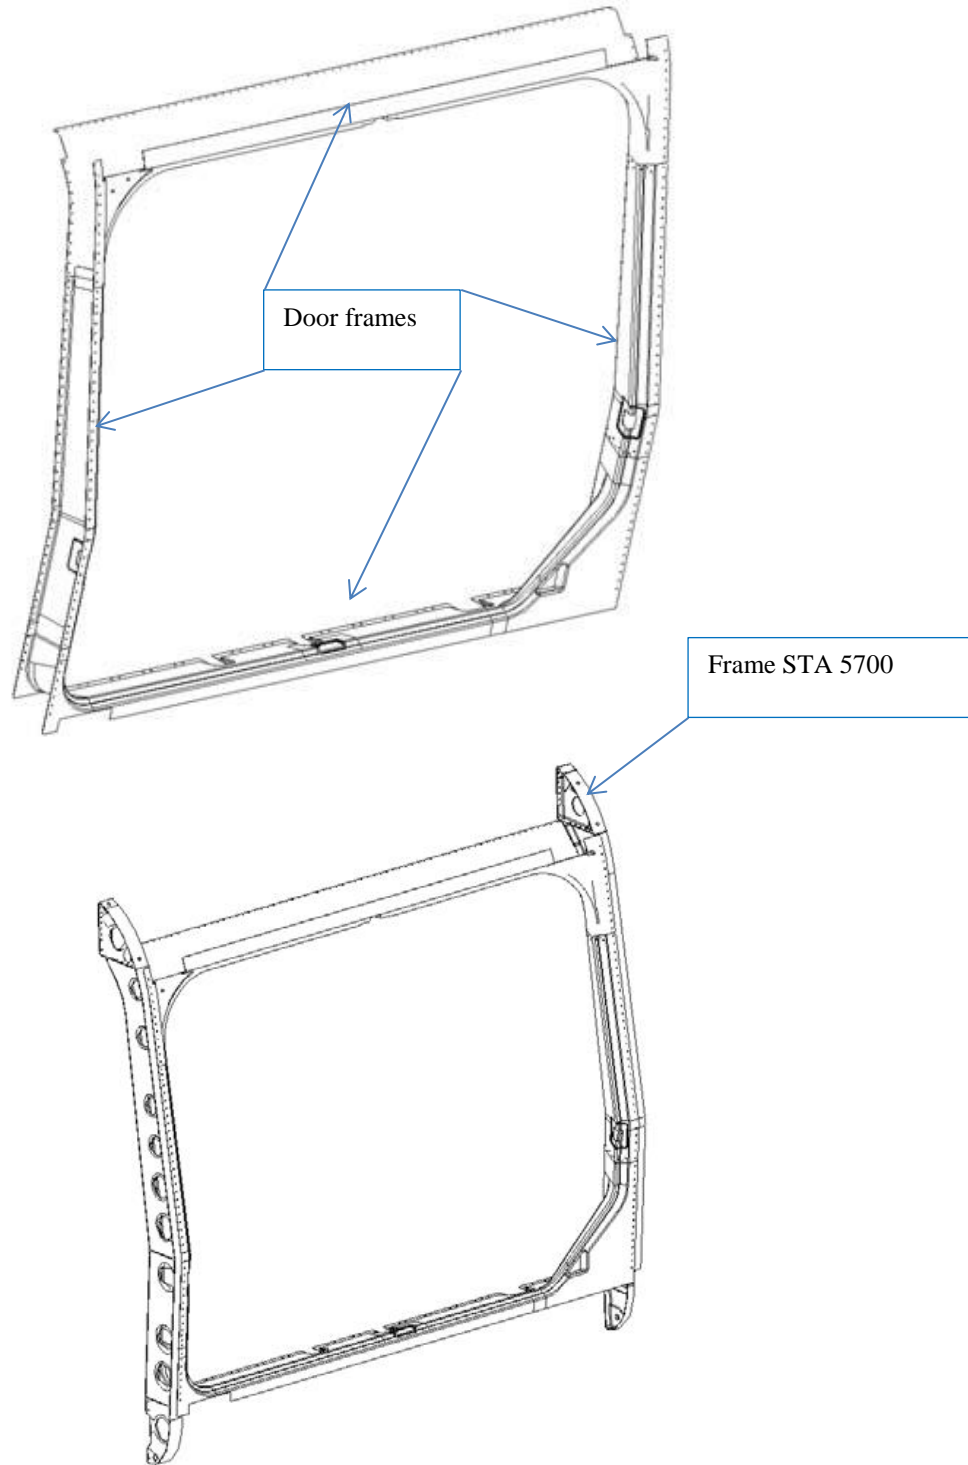

Figure A-4
- 1.4 joints between pax door frames and structural frames at STA5700 - see Figure A-4;